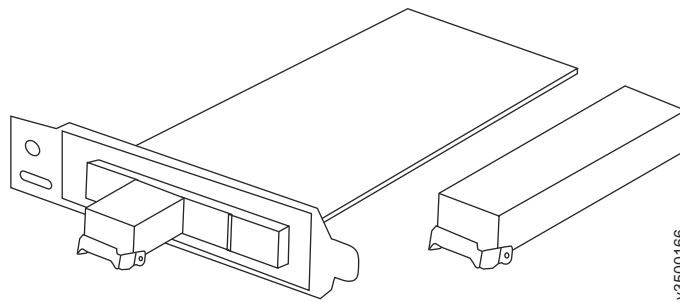

Figure 14. Host interface card and SFP transceivers
1. Remove the SFP transceivers from the host interface card (Figure 14). To remove an SFP transceiver, swing the release handle open and use it to pull the transceiver out of the port.